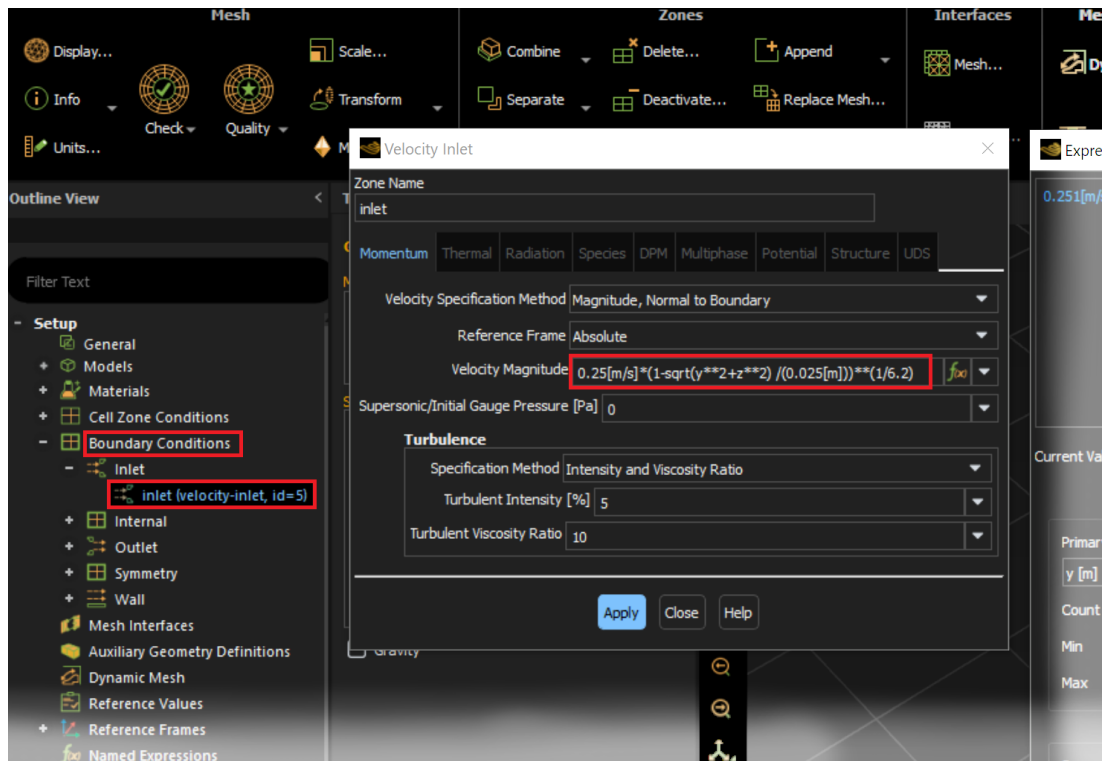

Figure 79: Setting a velocity profile as inlet boundary condition in Fluent.
Therefore, from (3), it results $U_{max} = 0.251$ [m/s], and eq. (2) can be inserted directly - or using the expression editor - as inlet boundary condition in Fluent, as shown in figure 79.